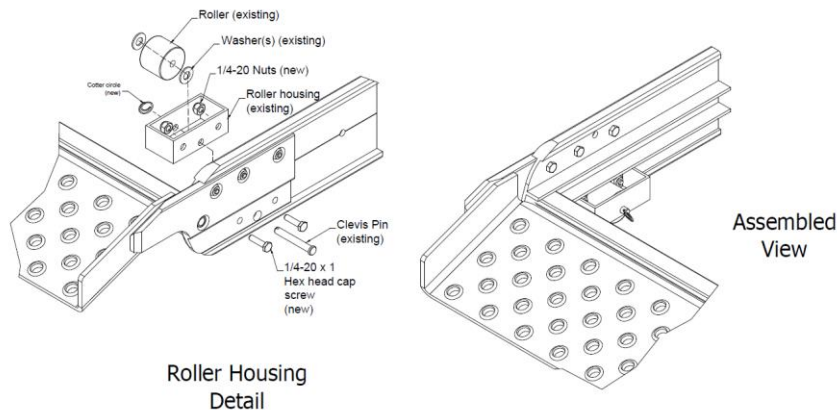

FIG. 4
- Install (6) 1/4"-20 x 3/4" Hex Head Cap Screws and (6) 1/4"-20 nylon lock nuts, with the heads on the inside of the rails as shown. Use the 7/16" wrench and socket to loosely install the hardware. *Do not fully tighten the fasteners at this time.*
- Place the 1/4"-20 x 1" Hex Head Cap Screws through the holes in the apron that correspond to the holes in the roller housing and tighten the 1/4"-20 Nylon Insert Stop Nuts on the inside of the roller assembly bracket. Reinstall the roller by referencing Fig. 4 for proper configuration.